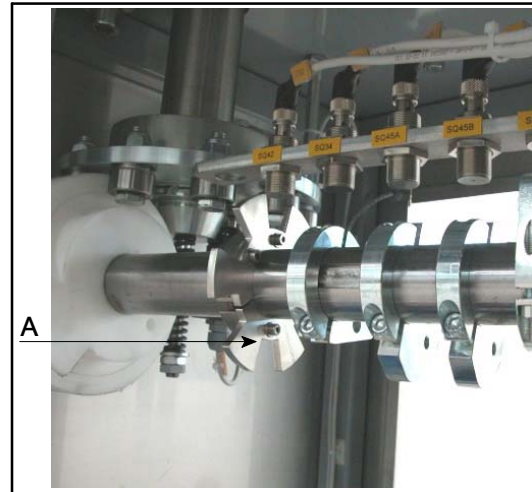

Fig.41
The production is counted by a sensor placed in the machine lower part. At each turn of the star-wheel (A), 6 impulses, the sensor counts a bottle (Fig.41).